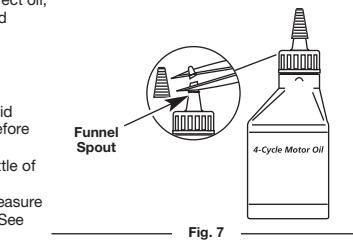

Fig. 7
Your unit is supplied with one 2.03 fluid oz. (60 ml.) bottle of SAE 30 SF, SG, SH oil (Fig. 7).
1. Unscrew the top of the bottle of oil and remove the paper seal covering the opening. Replace the top. Next, cut the tip off the funnel spout (Fig. 7).